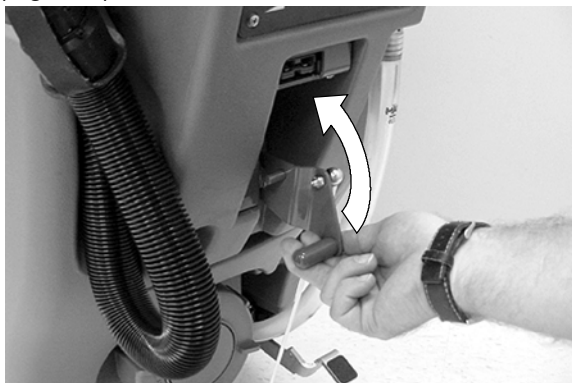

FIG. 3
2. Lift the squeegee lift lever to the upward position (Figure 3).